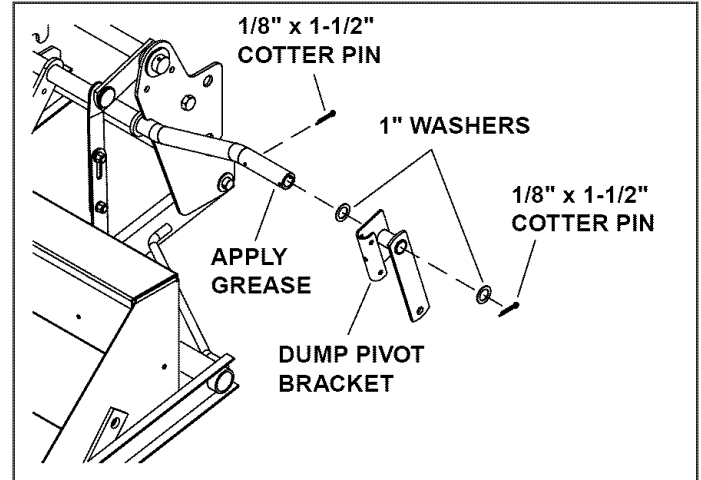
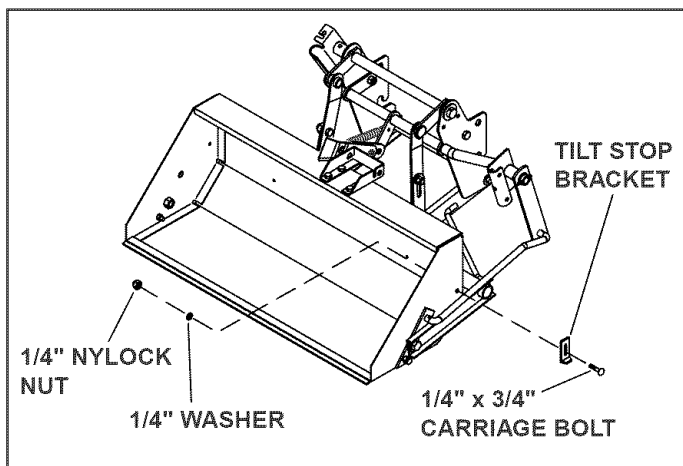

FIGURE 7
FIGURE 9
- Install a 1/8" x 1-1/2" cotter pin to the inside hole in the shaft shown in figure 9, and then install a 1" washer onto the shaft. Apply grease to the end of the shaft and install the dump pivot bracket assembly onto the shaft. Install a 1" washer onto the shaft and secure it using a 1/8" x 1-1/2" cotter pin. See figure 7.
- Install a tilt stop bracket to each side of the bucket using a 1/4" x 3/4" carriage bolt, 1/4" washer and 1/4" nylock nut. **Do not tighten** the nuts until step 25. See figure 9.